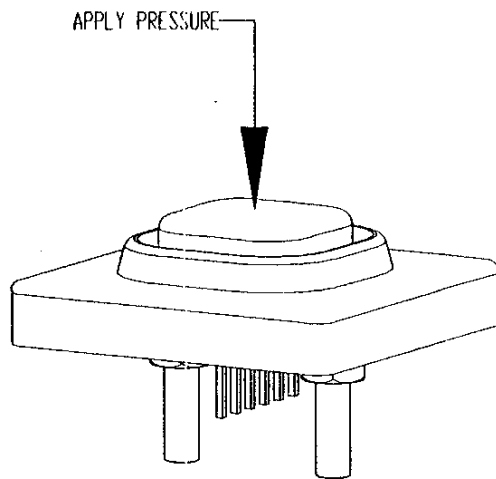

Figure 3
7. To bond the keycap, place the keycap on the adhesive, and apply a firm application pressure as shown in Figure 3 for a minimum of 20 minutes. Bond strength is dependent upon the amount of adhesive-to-surface contact developed. Firm application pressure develops better adhesive contact and thus improves bond strength. Firm pressure must be applied to increase the cold flow and contact of the adhesive with the keycap and keypad.